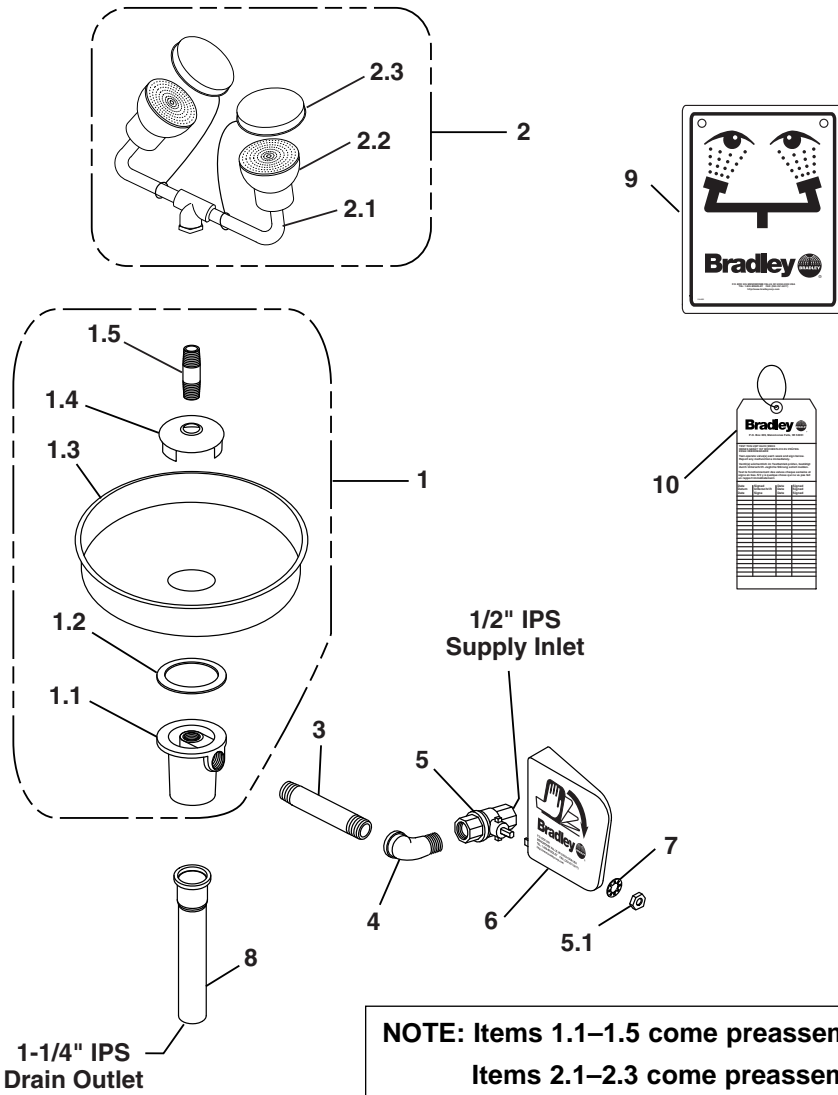

Figure 2
1. Assemble eyewash components as shown in Figure 2 on page 4.